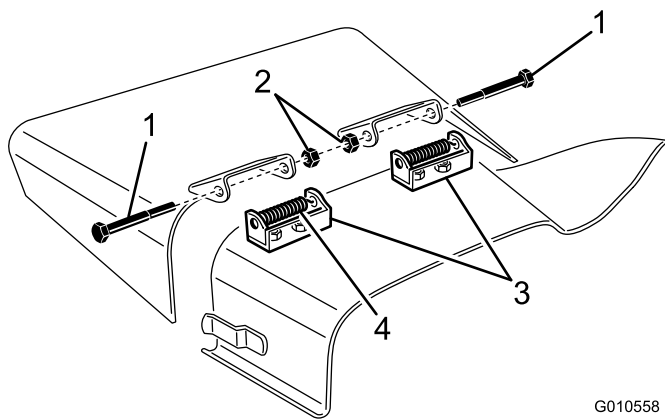

Figure 29
4. Remove the 2 capscrews, locknuts, and springs that secure the deflector mounts to the pivot brackets (Figure 29).
- To remove the pivot brackets, remove the carriage bolts and nuts (Figure 29).